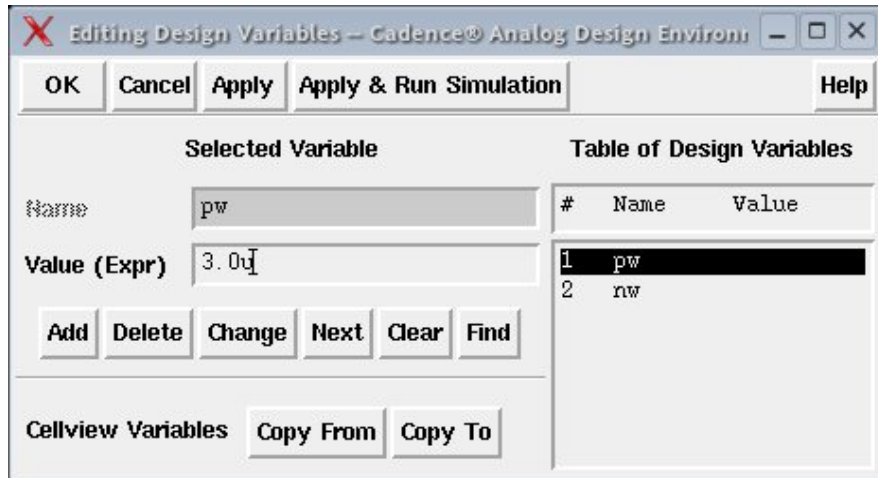

Figure 1: The Editing Design Variables dialog window.
10. In **ADE**, select **Variables** → **Edit**. Left-click on `nw`. In the value box, type `1.5u` and then apply the value by clicking **Apply**. Change the value of `pw` to `3.0u` and click **Apply**. Once the values have been assigned, click **OK**. See Figures 1 and 2 below.